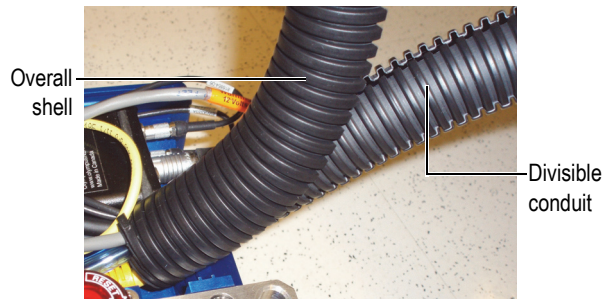

Figure 2-6 Umbilical – the overall shell over the divisible conduit
7. Install the overall shell over the divisible conduit (see Figure 2-6 on page 29).